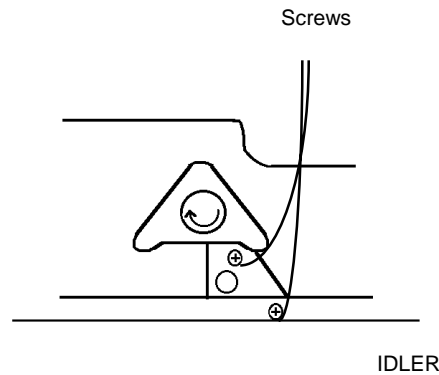

Figure 2. Idler Roll Adjustment Plate (showing adjustment screws)
2. (Figure 2): Loosen the Idler Roll Adjustment Plate from locations at either side of the drawer frame.